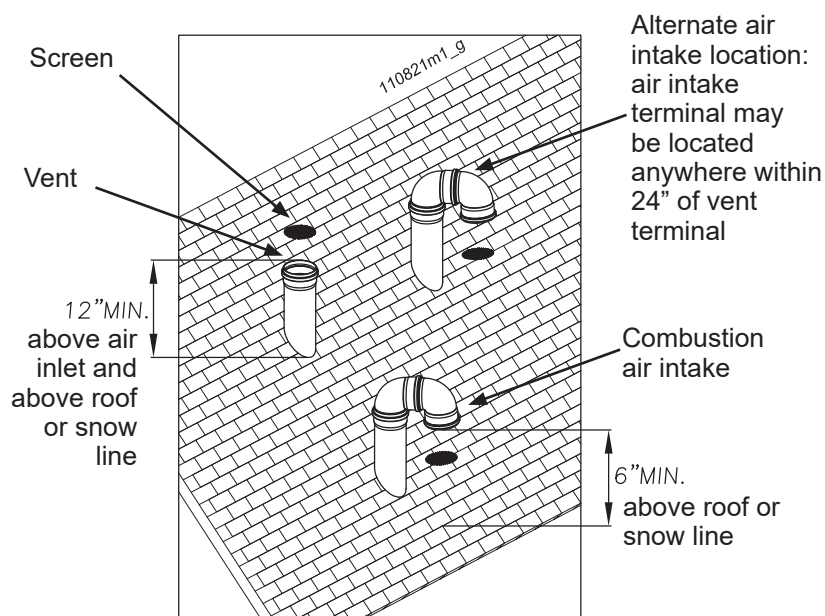

Figure 11-22 Two pipes vertical terminations of air and vent
- 3.- Space the air and vent holes to provide the minimum spacing shown in Figure 11-22 and listed in Section 11.12.1;
- 1.- Prepare the vent termination and the air termination elbow (Figure 11-22) by inserting bird screens;
- 2.- The air piping must terminate in a down-turned 180° return bend as shown in Figure 11-22. Locate the air inlet pipe no further than 2 feet from the center of the vent pipe. This placement avoids recirculation of flue products into the combustion air stream;
- 3.- Maintain the required dimensions of the finished termination piping as shown in Figure 11-22;
- 4.- Do not extend exposed vent pipe outside of building more than shown in Figure 11-22. Condensate could freeze and block vent pipe.